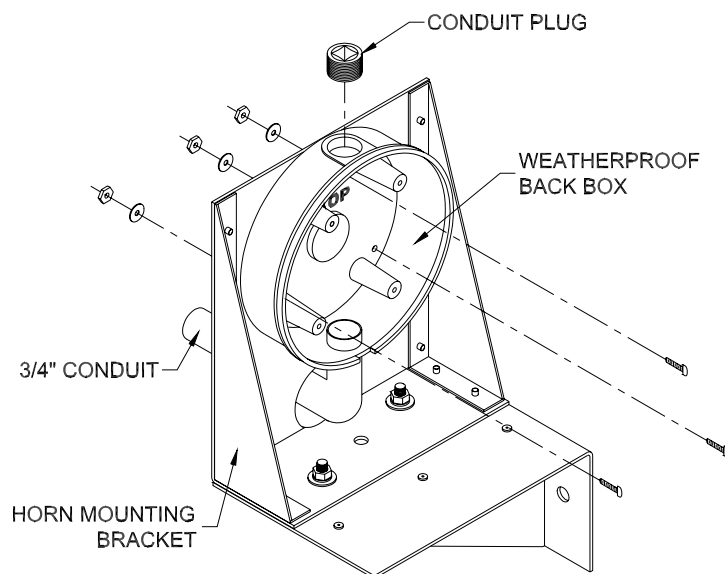

Figure 8 Back Box Mounting Points
10. Attach the weatherproof back box to the mounting bracket using the provided 8-32 x 1/2" Phillips head machine screws, #8 split-lock washers, and 8-32 hex nuts as shown in figure 8.